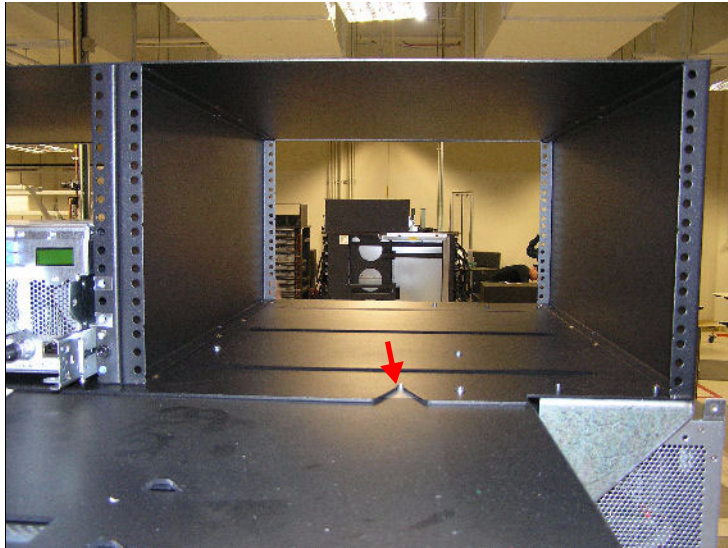

Figure 2-1 I/O enclosure alignment slot
3. Using the alignment slot, slide the I/O enclosure backwards until it is fully seated. See Figure 2-1.